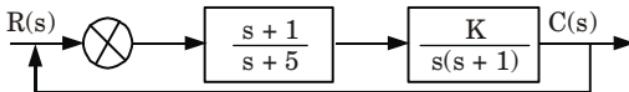

Fig. 14.
- b. What do you understand by the term sensitivity? Consider the feedback control system shown in Fig. 14. The normal value of the process parameter 'K' is 1. Determine the